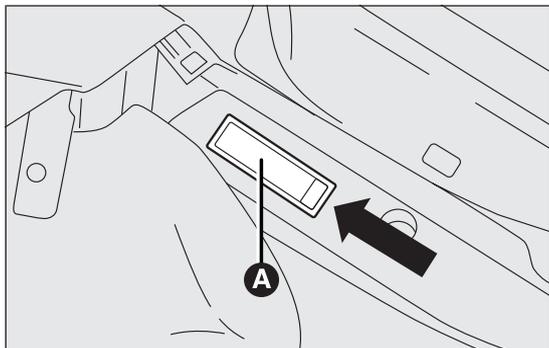

fig. 124
- using the screwdriver provided, extract the roof light A fig. 124 working in the point shown;